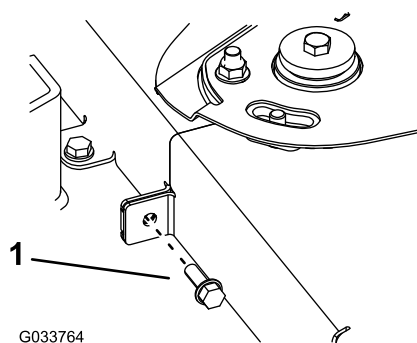

Figure 70
6. Remove the bolt connecting the 2 belt covers (Figure 70).
11. Install the bolt to connect the 2 belt covers (Figure 70).